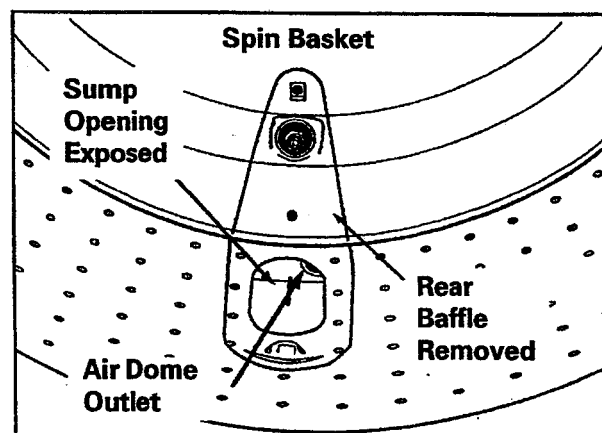

Figure 2-33
- Grasp and lift the airdome hose from the sump area (*Figure 2-33*).
- Thread the narrow end of the hose through the air dome outlet in the rear of the outer tub (*Figure 2-33*). Apply alcohol to lubricate the hose to ease insertion into the outer tub air dome outlet.